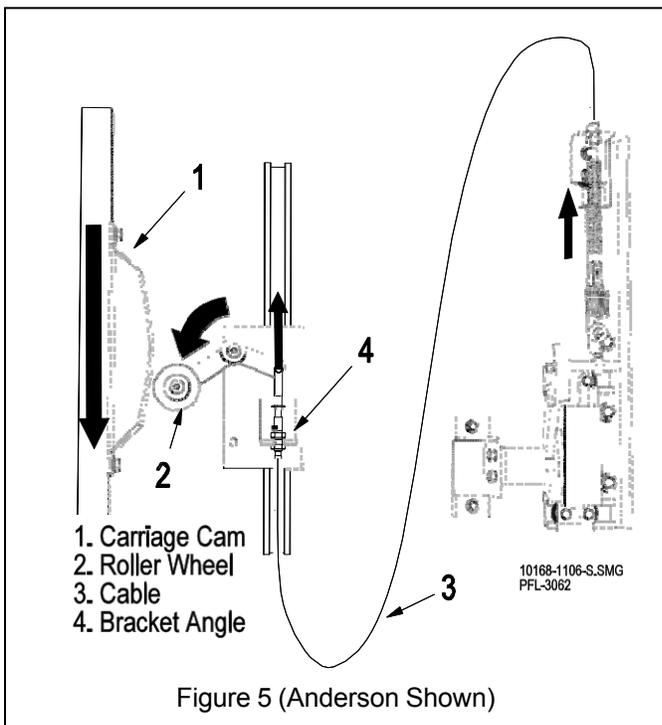

Figure 5 (Anderson Shown)
1. Adjust the carriage cam to allow $\pm \frac{3}{4}$ " cable travel (2" maximum cable travel). Make sure the roller wheel clears the edge of the cam. Center the cable travel at the center of the full cable stroke by positioning the cable in the bracket angle. See **Figure 5**.